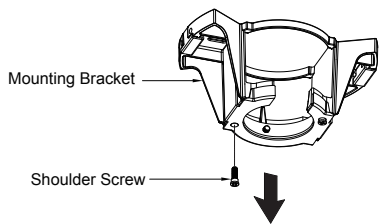

Fig. 10
**Step 7.** Remove one of the two shoulder screws in the mounting bracket and save for use in Step 9. Loosen the second shoulder screw without fully removing it. (Fig. 10)